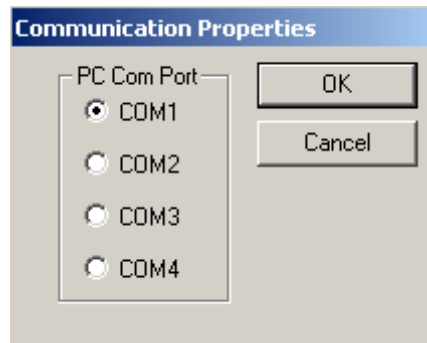

Figure 2.3: Communication Settings
- Go to the Main Menu and click on **View > Communications Settings**. The window in Figure 2.3 will appear.